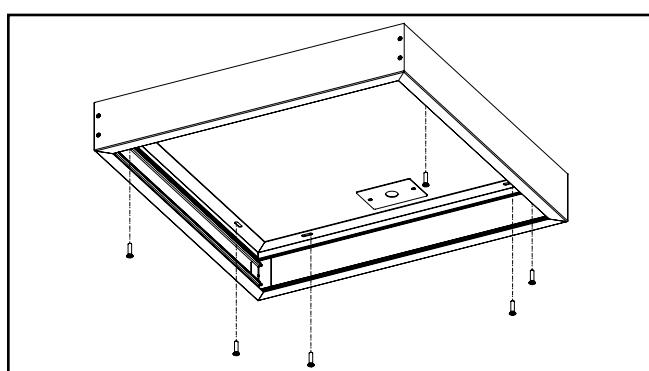

Figure 5.
- A5. Attach box to ceiling using appropriate hardware (not included) to secure both type "A" rails and one of the type "B" rails to the surface. Ensure the box remains square when mounting. The spacing of the mounting slots is 16 inches center-to-center. (Figure 5.) 7 inches center-to-center for short rail of CGTSURF14.